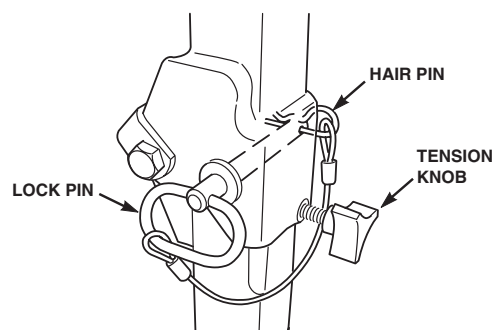

Figure 2-2 ROPS Hinge
2. Remove the hairpin cotter pins and remove the (2) two lock pins. See Figure 2-2.
6. Install the (2) two lock pins through the hole, secure with the (2) two hairpin cotter pins and tighten the tension knobs. See Figure 2-2. Remove the seat belt from the retainer brackets.